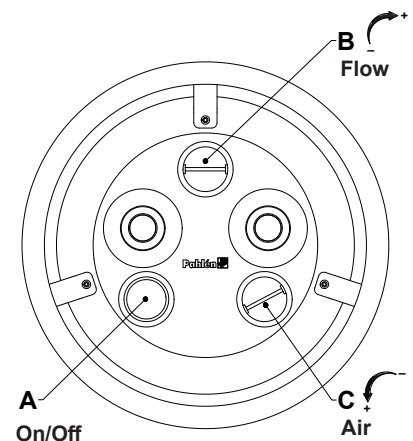

Figure 1.
8. Make sure that the pump's direction of rotations is consistent with the flow of the system. Open the valves. Completely fill the pump with water before starting it with the push-button (A fig. 1) on the stainless steel front.
9. The flow can be controlled with the knob (B fig. 1) above the outlet nozzles. Air can be added to the water streams using the knob (C fig. 1) below the outlet nozzles.
9. The flow can be controlled with the knob (B fig. 1) above the outlet nozzles.
Air can be added to the water streams using the knob (C fig. 1) below the outlet nozzles.
The Jet Swim pump is started and stopped by air impulse via the pushbutton (A) on the stainless steel front; see figure 1.
The flow of water can be controlled using the knob (B) above the outlet nozzle; see figure 1.
Air can be added to the water streams using the knob (C) below the outlet nozzles; see figure 1.